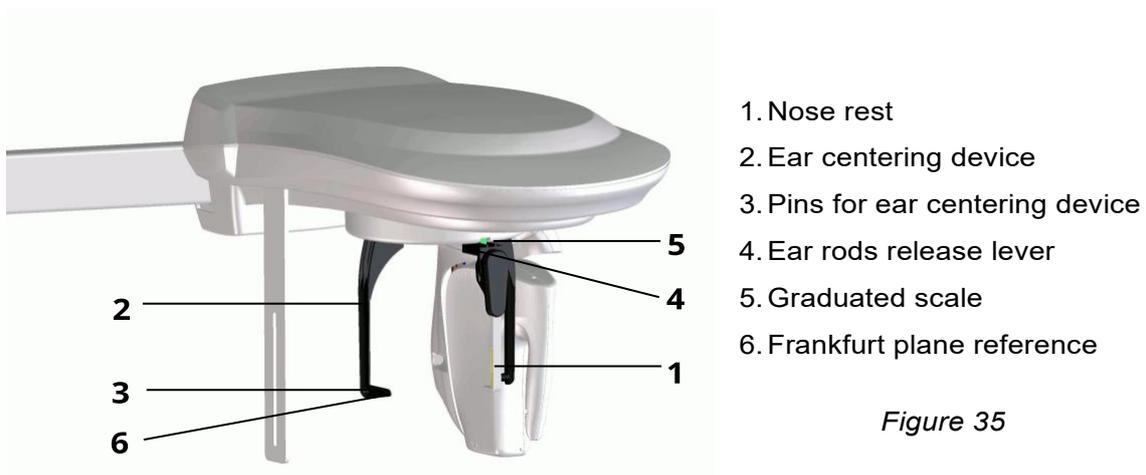

Figure 35
4. Move the nose rest away outwardly to its maximum extension. Manually rotate the head positioning device according to the cephalometric projection to be made (AP or LL), by rotating the upper part of the ear centering device (Figure 35).